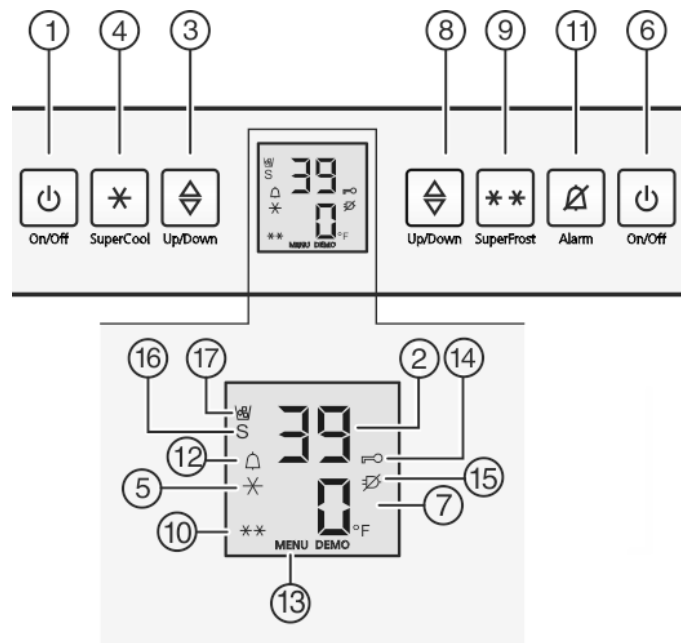

Fig. 3
- ▶ Press the freezer compartment On/Off button *Fig. 3 (6)*.
- ▶ Press the refrigerator compartment On/Off button *Fig. 3 (1)*.
- ▶ Activate setting mode: Press SuperFrost button *Fig. 3 (9)* for about 5 seconds.
- ▷ The Menu symbol *Fig. 3 (13)* lights up.
- ▶ Use the Set freezer compartment button *Fig. 3 (8)* to select °.
- ▶ To confirm: Briefly press SuperFrost button *Fig. 3 (9)*.
- ▶ Select °F oder °C with the Freezer compartment set button *Fig. 3 (8)*.
- ▶ To exit setting mode: Press Freezer compartment On/Off button *Fig. 3 (6)*.
- ▶ To activate setting mode: Press and hold the SuperFrost button *Fig. 3 (9)* for approx. 5 seconds.
- ▷ In the display, the Menu Symbol *Fig. 3 (13)* is displayed.
- ▶ Use the Set freezer compartment button *Fig. 3 (8)* to select c.
- ▶ Confirm briefly by pressing the SuperFrost button *Fig. 3 (9)*.
- ▷ The Child Safety symbol *Fig. 3 (14)* lights up on the display.
- ▶ Press the freezer compartment On/Off button *Fig. 3 (6)* briefly.